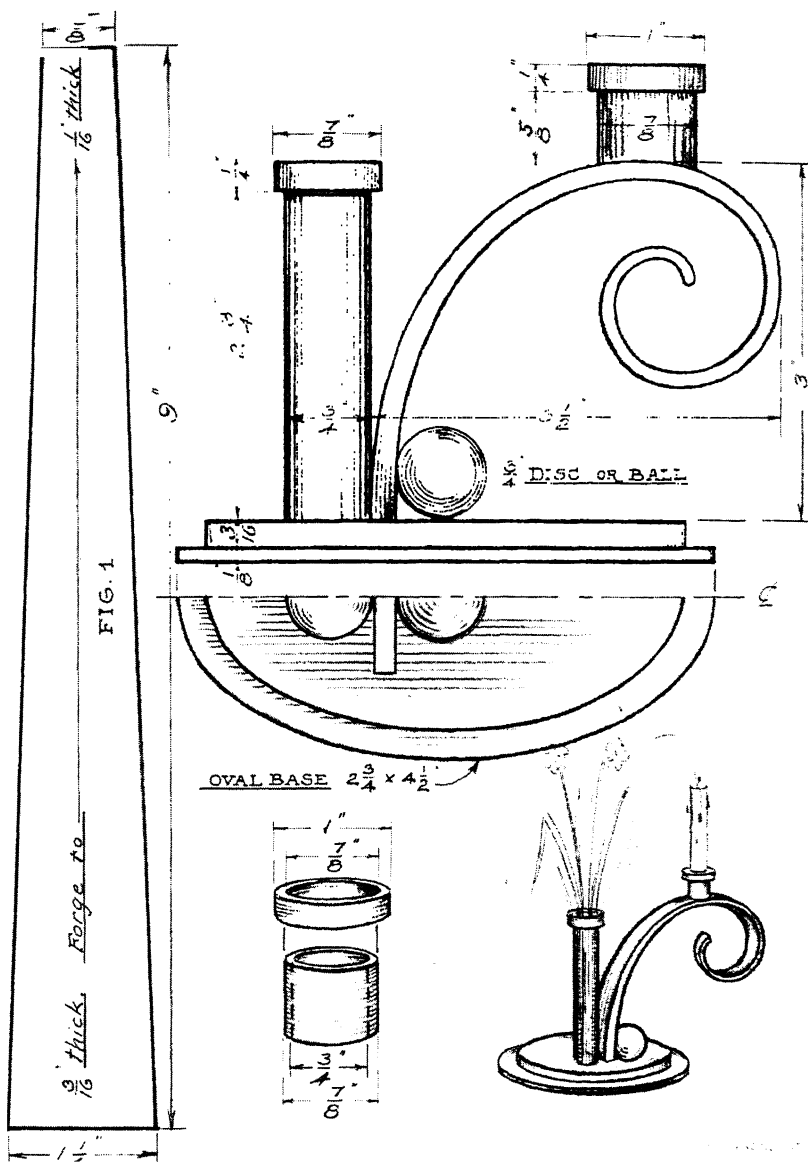

FIG. 1
10. With a blunt chisel and a chasing hammer (Fig. 1) vein the leaf.
2. Saw and file it to the size shown in Fig. 1.